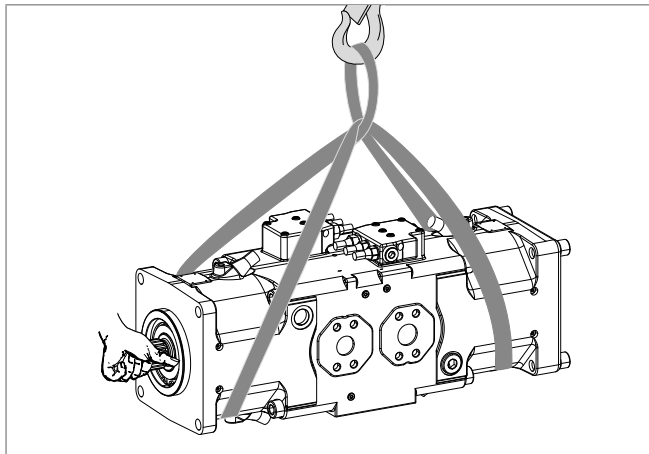

Fig. 7: Transport with lifting strap
- ▶ Place the lifting strap around the axial piston unit in such a way that it does not pass over assembled parts (e.g. valves, piping) and that the axial piston unit is not suspended from assembled parts (see Fig. 7).